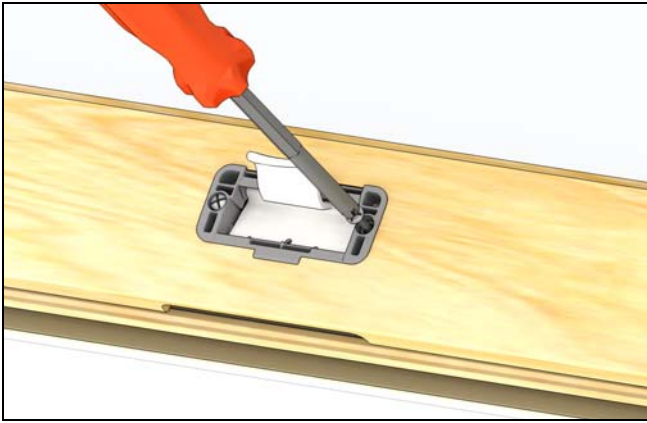

Figure 37
3. Remove the screws from the housing. See Figure 37.